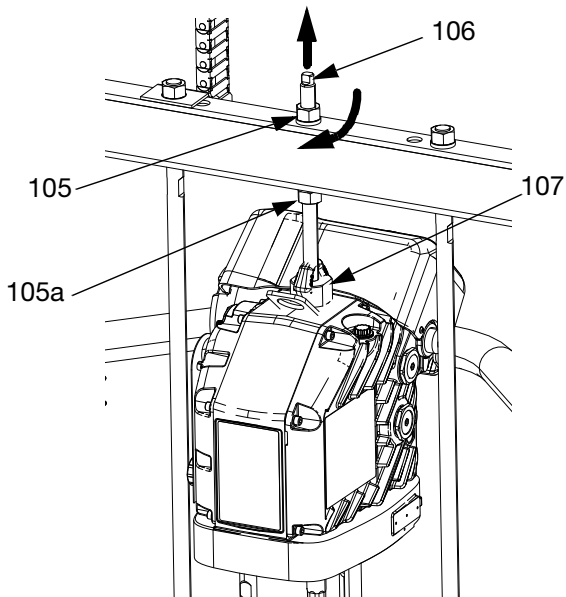

FIG. 46
1. Insert Displacement Pump (AC) on Platen (AD). Follow **Connect Platen** steps on page 50.
3. Connect Driver (AB):
- a. Use wrench on nut (105) on top of Ram bar to lower Driver (AB) onto Displacement Pump (AC). See FIG. 46 on page 51. Thread nut (105) up and tighten it under Ram bar. Tighten nut (105) below the crossbar to 25 ft-lb (34 N•m) maximum.